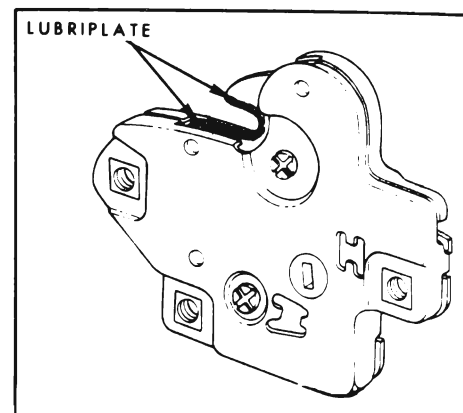

Figure 1-19—Rear Compartment Lid Lock Bolt
- c. Rear Compartment Lid and Tail Gate Locks. See Figure 1-19.